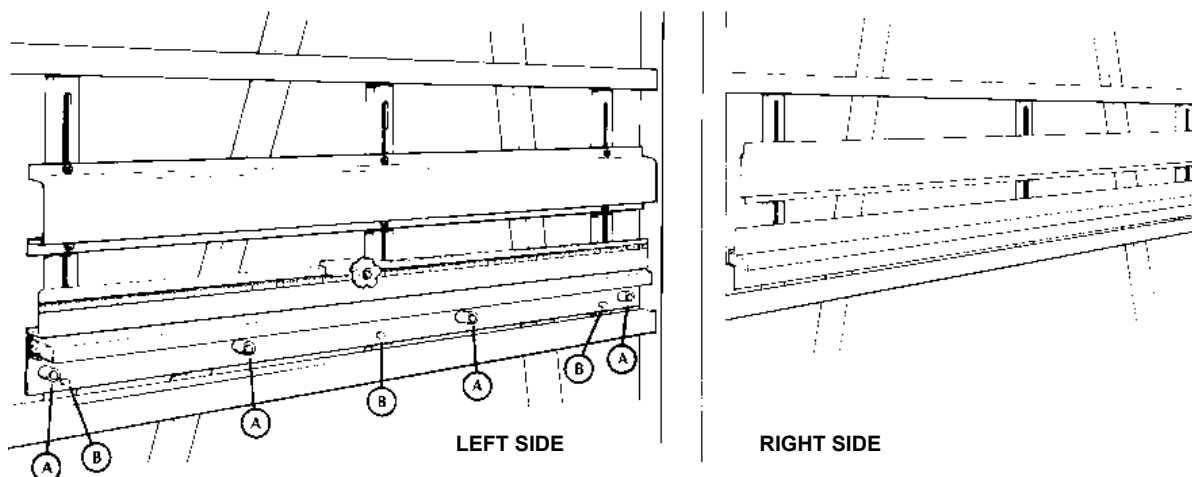

Figure 45: Mounting the Midway Fence
2. Set the complete right-hand fence assembly onto the tool frame as shown in Figure 45.